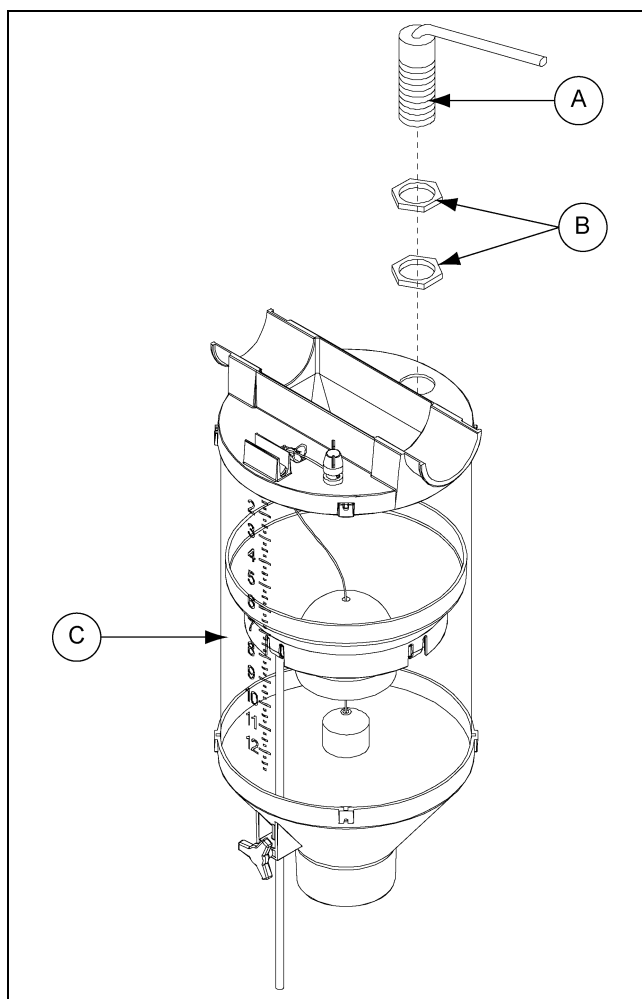

Figure 3E Proximity Switch Installation
The next step for a chain disk system is to install the chain and disk (see the chain disk installation and operation manual) and finish connecting the sections of tubing together with couplers. The chain disk system does not require an Accu-Drop control unit. To turn the system ON and OFF, a proximity switch and/or a time clock must be used. To install a proximity switch (FLXDF-1172), drill a 1-3/6" hole in the middle of the top on the back side. (See Figure 3E.) Insert the proximity switch and secure it using two (2) nuts, one on the inside and one on the outside of the top. Position the switch so that it extends into the feed dispenser 2-3/4".